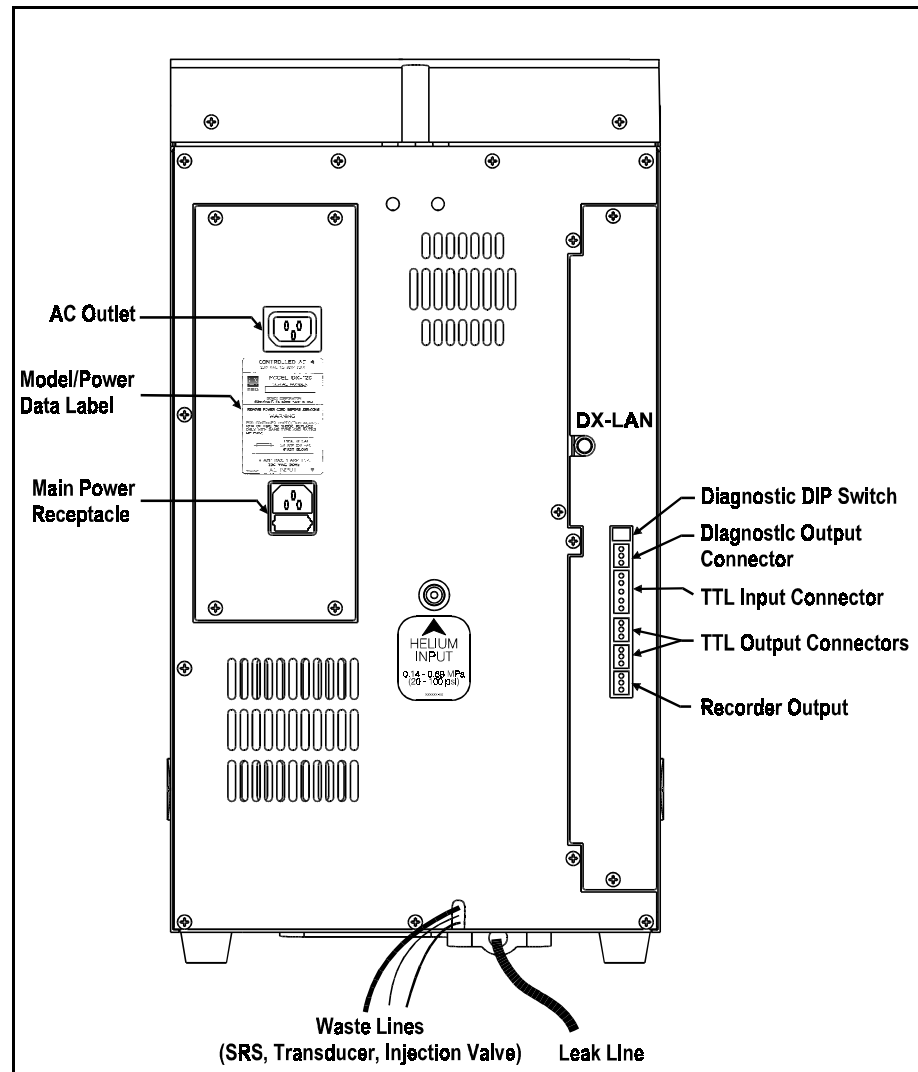

Figure B-1. DX-120 Rear Panel
1. A label on the DX-120 rear panel indicates the line frequency (50 or 60 Hz) and voltage (100, 115, 230 VAC) for which the system is designed (see Figure B-1). Make sure the frequency and voltage are appropriate for your location. If you are unsure, consult an electrician.
2. Connect the power cord (IEC 320 C13) from the main power receptacle on the rear panel (see Figure B-1) to a grounded power source.
Locate the 3-mm (0.062-in) ID tubing (P/N 030089) provided in the DX-120 Ship Kit. Push one end into the gas connector on the rear panel (see Figure B-1). Connect the other end to a source of laboratory-quality helium regulated to between 0.14 and 0.69 MPa (20 and 100 psi).
1. Connect a BNC tee connector (P/N 921914) to the DX-LAN BNC connector on the rear panel (see Figures B-1 and B-3).